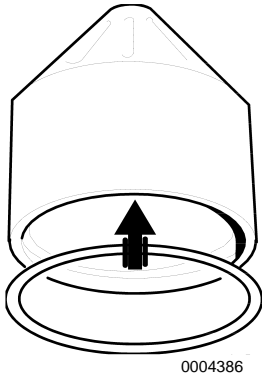

Figure 8
- Install the O-ring in the rotor bowl (**Figure 8**).